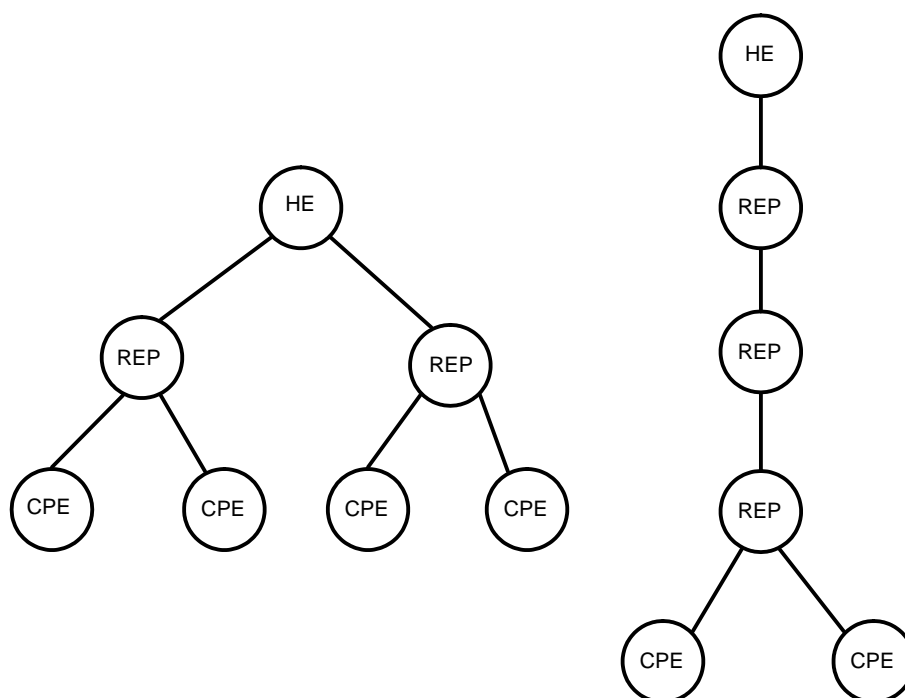

Figure 1 Typical Access Scenario
An access PLC network consists of a number of user terminals (CPEs) that transmit/receive traffic in a shared medium to/from a centralized station (HE). If the signal is too attenuated to reach all CPEs from the same HE, repeaters (REP) can be inserted in the network in order to retransmit the signal and thus increase the coverage. Repeaters can be either TDR or FDR. From this description, the type of topologies to be found in PLC access networks are tree-like topologies, like the one depicted in Figure 1, where a central node, called a HE, concentrates all of the upstream and downstream traffic.